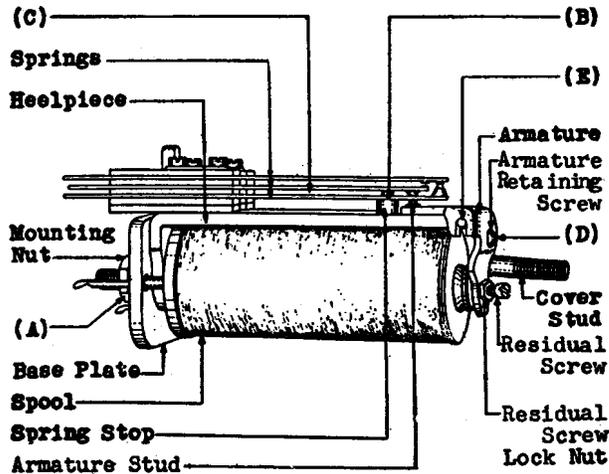

Fig. 3 - 207-type Relay
**2.11 Relay Mounting:** Fig. 3(A) — The spool shall be fastened securely to the heel-piece and the heel-piece shall be fastened securely to the base plate. The base plate shall be fastened securely to the mounting strip.
**2.14 Stud and Stop Clearance:** Fig. 3(B) — The studs and stops shall not rub on the springs through which they pass when the armature is moved.
**2.15 Separation Between Springs:** Fig. 3(C) — There shall be a clearance between springs designed never to touch in the operated or unoperated position of the relay of
**2.16 Tightness of Retaining Screws:** Fig. 3(D) — The armature retaining screw shall be held securely in place.
**2.17 Armature Movement:** Fig. 3(E) — The armature shall move freely in its bearings.